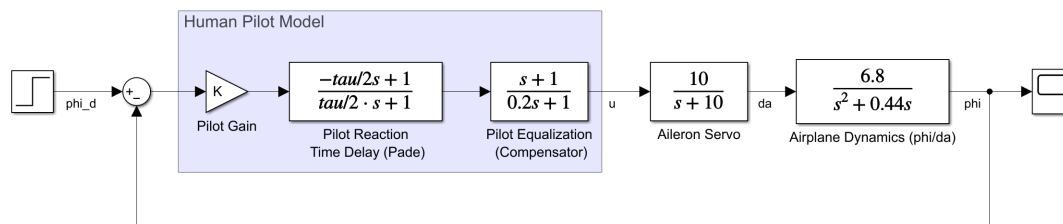

Figure 3: Pilot plus airplane closed-loop control system
5. In order to analyze the bank angle controllability of a business jet airplane with the pilot in the loop at a cruise altitude of 40,000 feet, a block diagram illustrating the pilot-plus-airplane system (as a closed-loop control system!) is shown in Figure 3. The dynamics of the pilot as a controller (ignoring neuro-muscular lag) can be modeled as